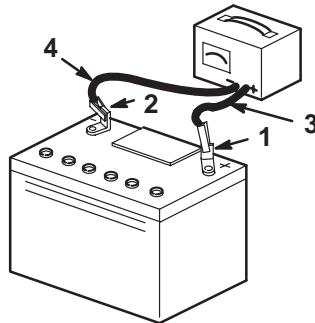

Figure 11
- When the battery is fully charged, unplug the charger from the electrical outlet, then disconnect the charger leads from the battery posts (Fig. 11).